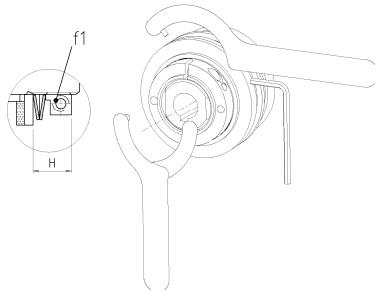

FIG. 11 : DF – GR
GHIERA CON BLOCCAGGIO RADIALE "GR" (Gr.00.38-5.170 ; FIG.11 pos.f1)
- Svitare i perni (Fig.11 pos.p) fino ad impaccare le molle fra seeger e ghiera assiale GA (Fig.11 pos.g).
- Svitare le 2 piccole viti di bloccaggio (Fig.11 pos.n) posizionate a 180° fra loro sulla ghiera GA. A questo punto avvitare la ghiera stessa fino a battuta, senza forzare, e bloccarla assialmente con le due piccole viti.
- RADIAL LOCKING NUT "GR"** (size 00.38-5.170 ; FIG. 11 pos.f1)
- Unscrew all adjustment-screws (Fig.11 pos.p) that are located in the big GA nut (Fig.11 pos.p) only so far, until they aren't in contact with the GA nut any more. Don't unscrew completely – do not remove!
- Loosen the 2 small blocking-screws (Fig.11 pos.n) that are also located at 180° from each other on the big GA nut to be able to turn the GA nut. Screw in the GA nut far enough for it to make slight contact with the springs. Do *not* use a lot of force! After that - tighten the 2 small blocking-screws. Now the axial nut GA is protected against unwanted turning.